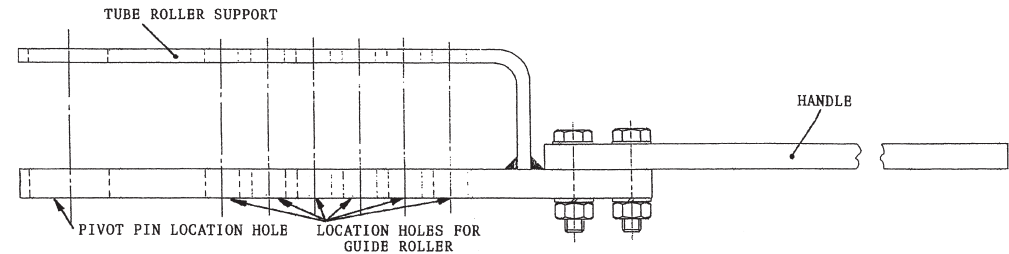

Figure 2
Upon receipt of your new Tube Bender, assemble the Handle to the Tube Bender Roller Support with the bolts supplied (see Figure 2 and 3). Figure 3 shows the Bender Body with Holes (A) drilled in the Base Foot and the Vice Clamp Block. These are for mounting the Bender permanently to a work bench, or the optional Support Stand. Alternatively, the Bender can be temporarily held in a vice by holding the Vice Clamp Block.
Figure 2 shows the Tube Roller Support Frame and handle assembled. Early models had four Holes for the location of the Guide Roller, more recent models have six. This allows better bending on the 1/2" and 5/8" Round Tube.
Figure 3 is a schematic diagram showing the side elevation of the assembled Bender. To change a Former it is a simple matter of removing the Pivot Pin. Once the Pivot Pin has been removed, the Support Assembly (Figure 2) can be removed leaving the Former bolted to the Body. Simply unbolt the Former and replace it with the size Former you require. Replacing the Support Assembly is a reversal of the removal procedure.